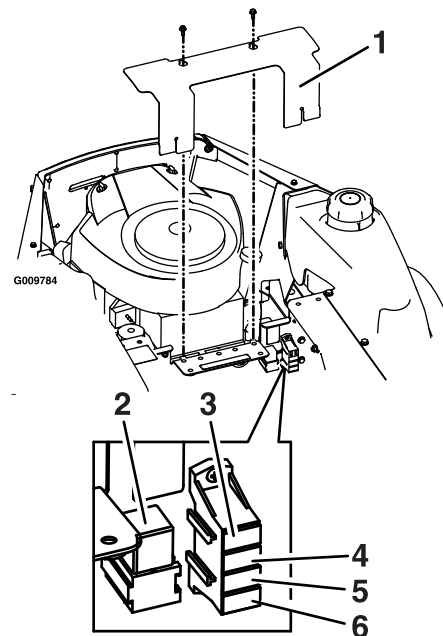

Figure 30
- Raise the seat to gain access to the fuse holder (Figure 30).
- Remove cover as shown in Figure 30.